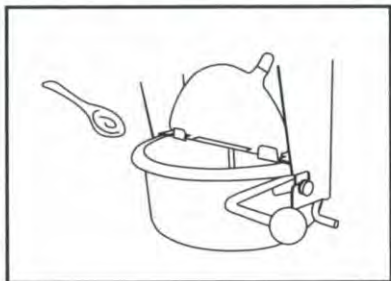

Fig.1
5. Switch the light and heater to ON (I & III) and then add a suitable amount of butter or oil (Fig. 1). While the amount is dependent upon your taste, please do not exceed 1/2oz.